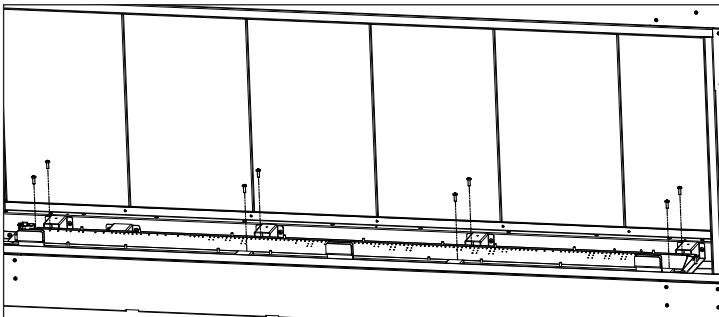

Figure 8: Burner Mounting Screws
4. **For U60:** Unscrew the Eight (8) T20 screws securing the burner and slide it to the right and up to remove it (Figures 8 and 9).
For U74: Start with the right side burner and unscrew the six (6) T20 screws securing the burner and slide it to the right and up to remove the burner (Figures 8 and 9). Repeat this process for the left burner.